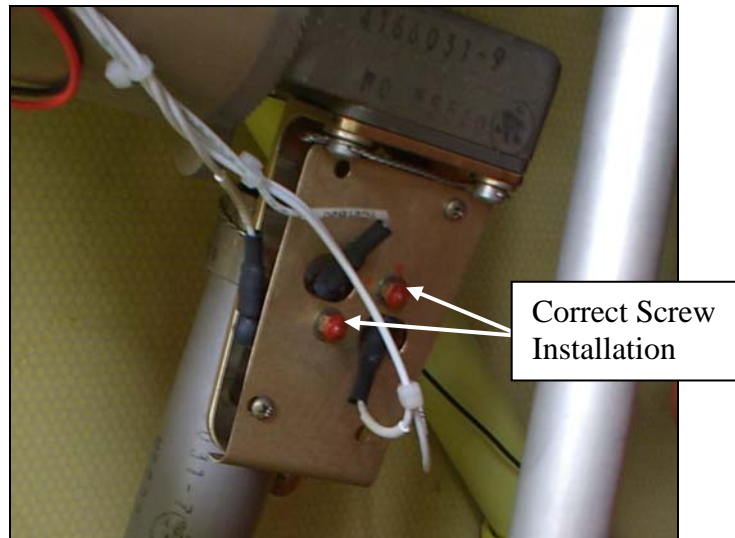
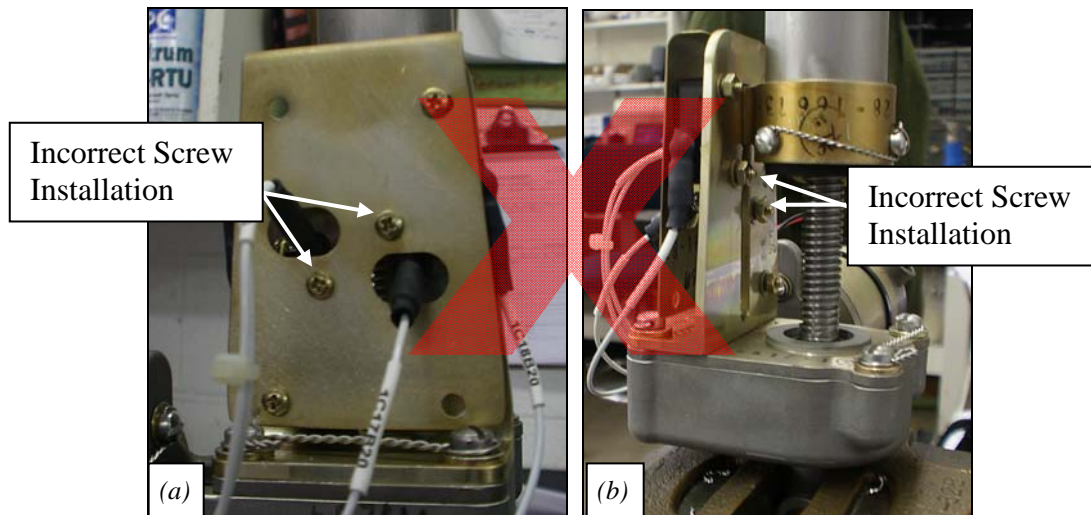

Figure 1. Properly Installed Screws – The heads of the inner screws face the spring capsule.
Figure 2. Improperly Installed Screws (a) (b) – The shanks of the inner screws face the spring capsule (b). (The trim actuator is removed from the aircraft.)
- 6.2 Inspect the lateral and longitudinal trim switch assemblies for the proper screw orientation. The screw shanks and nuts should be visible on the wiring side of the switch assembly (*Figure 1 and Figure 2*). The heads of inner screws should be facing the spring capsule. NOTE: On 480-series aircraft, the outer screws may be installed in either orientation.